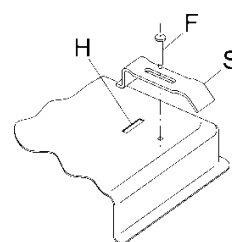

FIG. 7
- Fix the hob with the proper brackets "S" and fit the prominent part into the porthole "H" on the bottom; turn the screw "F" until the bracket "S" stick on the top (fig. 7).